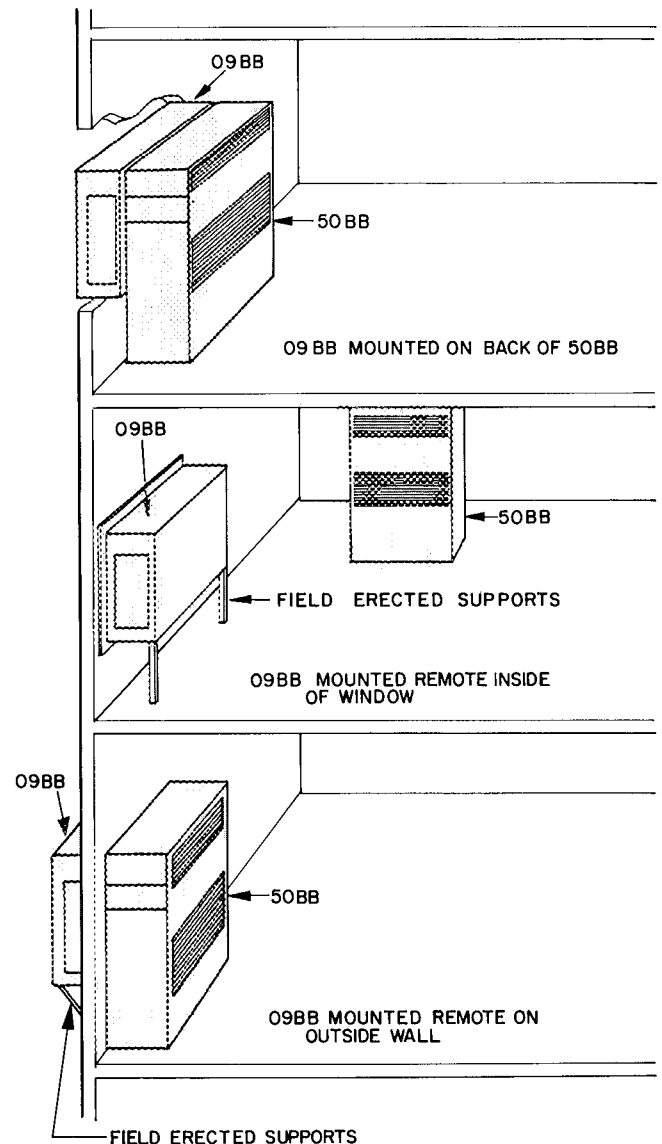
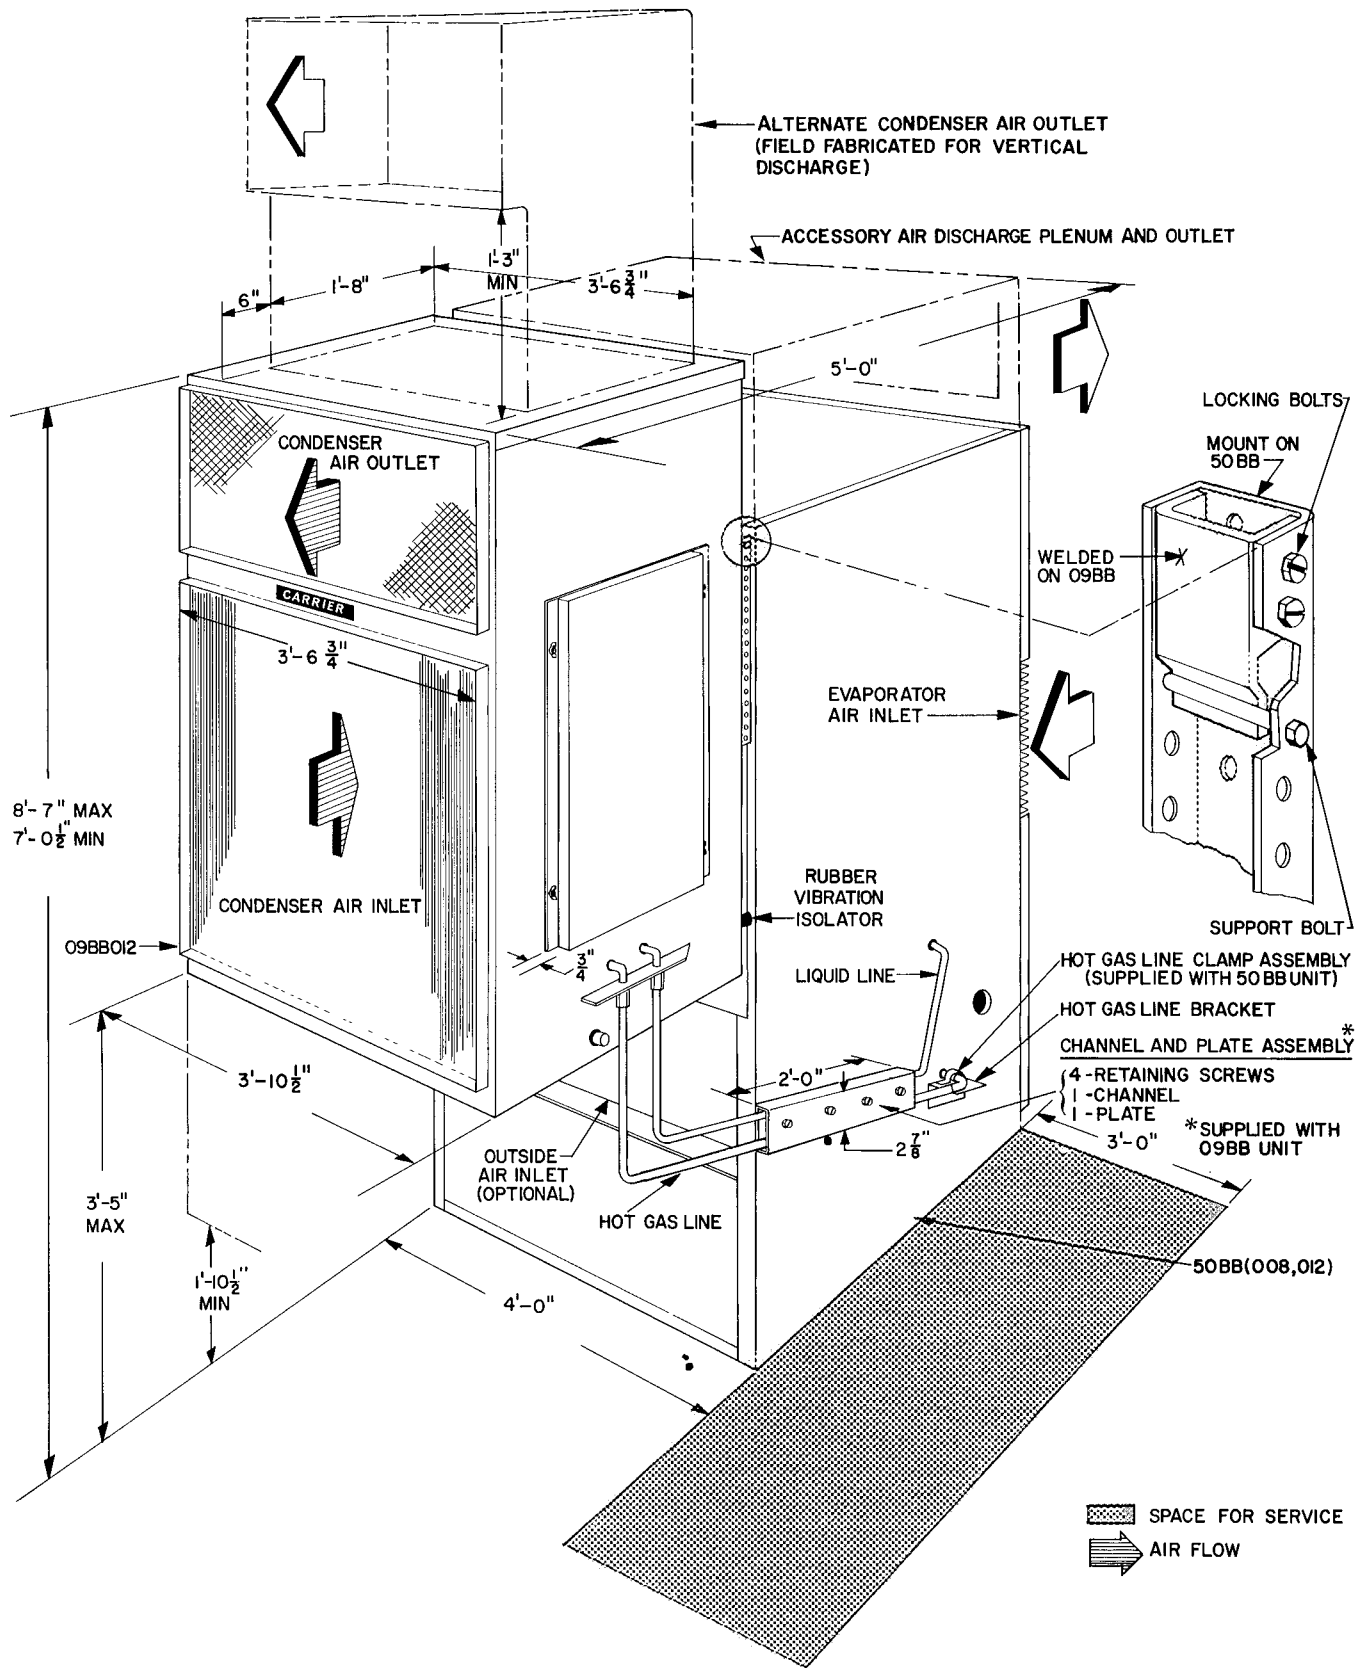

Fig. 2 - Mounting Arrangements
Fig. 3 - 50BD Combination
**Before Installation** - Check space requirements, service clearances, floor strength, location of piping, size of power supply, and location of ductwork (Fig. 2 and Fig. 3).
3. Install support bolts as shown in Fig. 3.
**Positioning 09BB Unit** - For typical installation refer to Fig. 3.
**HOT GAS LINE BRACKET** - Install proper size rubber-coated clamp assembly (furnished in 50BB fastener package) to hot gas line bracket (Fig. 3).
**CHANNEL AND PLATE ASSEMBLY** - Figure 3 illustrates correct assembling and positioning for this assembly.